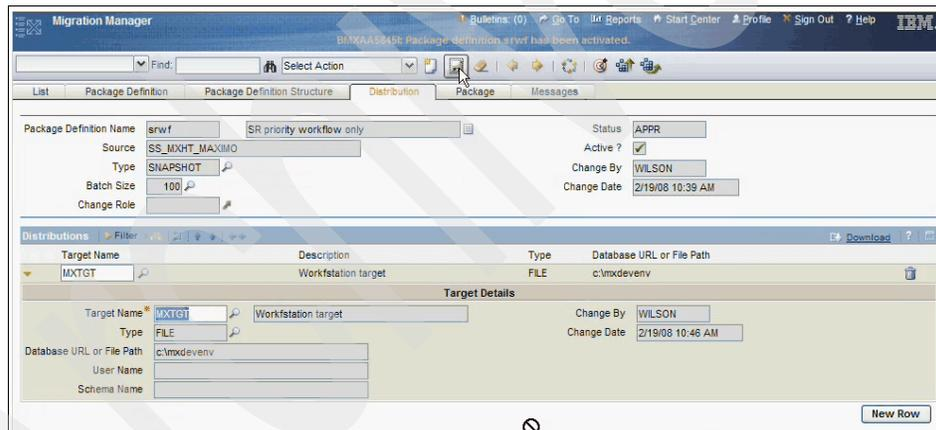

Figure 8-33 Save package distribution target
17. Choose the MXTGT Target Name and save the package definition by pushing the **Save** button (the little disk) in the button bar in the window, as shown in Figure 8-33.